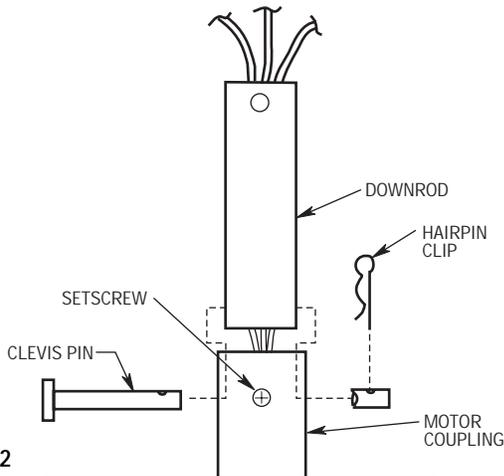

Figure 2
2. Loosen setscrew in motor coupling if necessary. Separate, untwist and unkink the three 80" motor leads. Route the motor lead wires through the downrod. Align the clevis pin holes in the downrod with the holes in the motor coupling. Install the clevis pin and secure with the hairpin clip (Figure 2). The clevis pin must go through the holes in the motor coupling and the holes in the downrod. Be sure to push the straight leg of the hairpin clip through the hole near the end of the clevis pin until the curved portion of the hairpin clip snaps around the clevis pin. The hairpin clip must be properly installed to prevent the clevis pin from working loose. Pull on the downrod to make sure the clevis pin is properly installed.
<p>It is critical that the clevis pin in the motor coupling is properly installed and the setscrew securely tightened. Failure to verify that the pin and setscrew are properly installed (as shown in Figure 2) could result in the fan falling.</p>